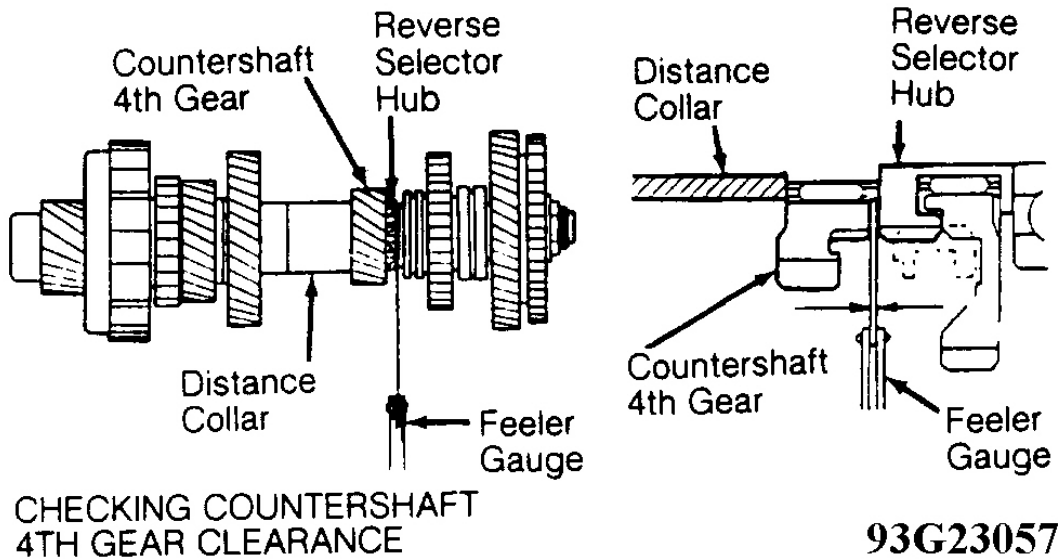

Fig. 20: Countershaft 4th Gear Clearances
4. Using feeler gauge, measure countershaft 4th gear clearance between shoulder on reverse selector hub and shoulder on countershaft 4th gear. See **Fig. 20** .